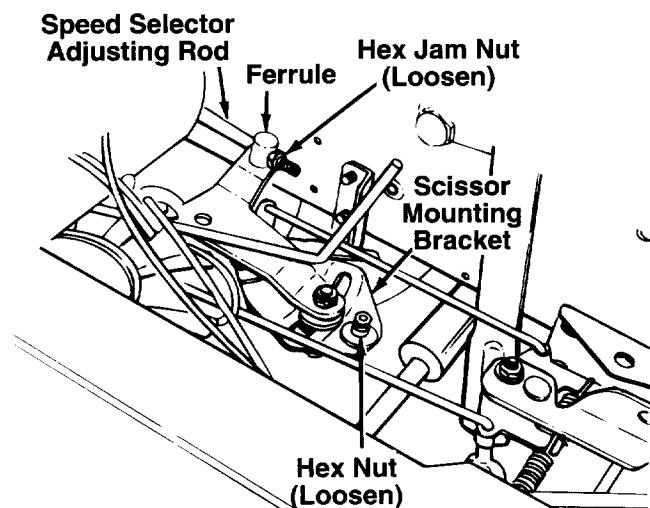

FIGURE 20.
3. Loosen the hex jam nut on the speed selector adjusting rod. See figure 20.
4. Loosen the hex nut on the scissor mounting bracket. See figure 20.